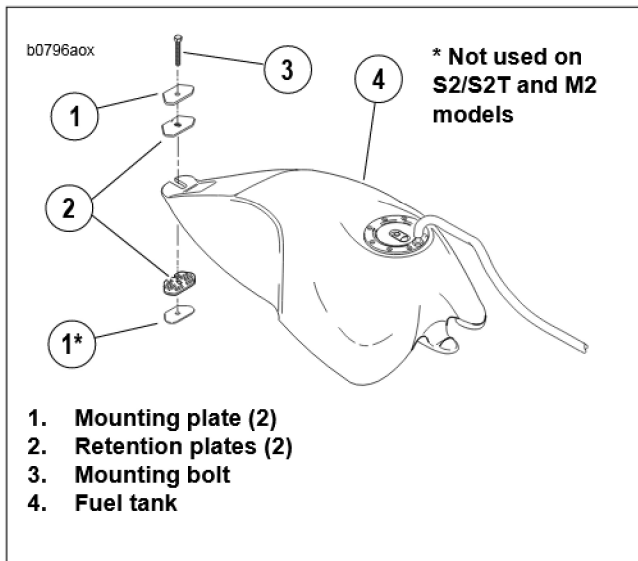

Figure 5. New Fuel Tank Mounting Arrangement
- See Figure 5. Install new mounting bolt (4) and tighten to 18-23 ft-lbs. (24.4-31.2 Nm).